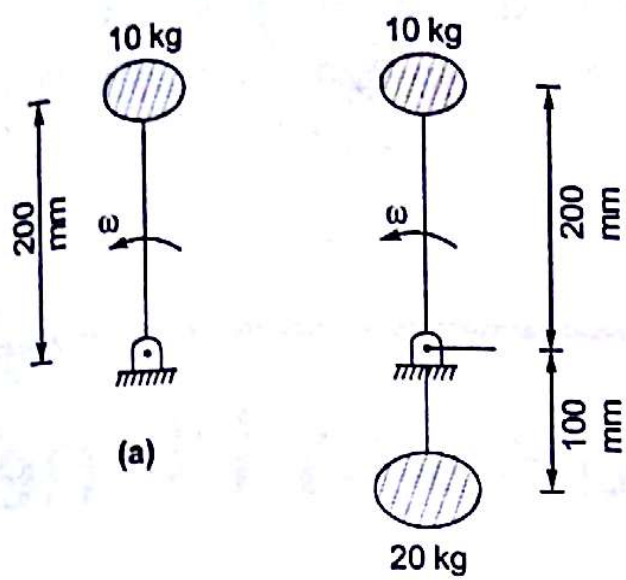

Fig. 16.5
- 16.7 A rigid body shown in the fig. 16.5(a) has a mass of 10 kg. It rotates with a uniform angular velocity ' ω '. A balancing mass of 20 kg is attached as shown in fig. 16.5(b). The percentage increase in mass moment of inertia as a result of this addition is